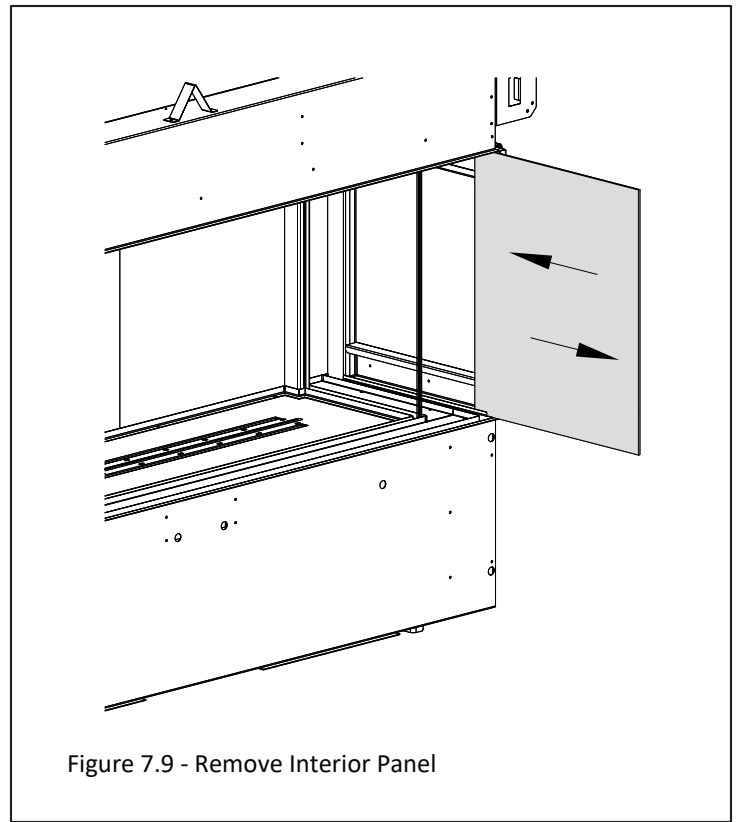

Figure 7.9 - Remove Interior Panel
1. Remove the safety screen barrier, and black interior panel shown in Figure 7.9.